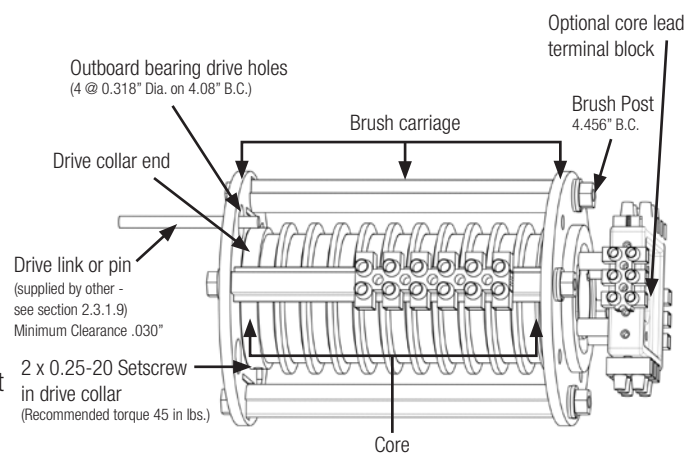

Figure 1
2.3.1.5 The brush carriage on a standard slip ring assembly has drive holes in the outboard bearings (see figure 1).
2.3.2.4 It is not recommended to drive the unit from the core lead end. (See Figure 1) Also, do not drive the core or the brush carriage by the wire leads.
2.2.4 The optional core lead terminal block provides connections to the rings. Use the appropriate crimp connectors if the terminal block is not supplied. See Section 2 (Figure 1) for cable lead thermal block illustration.